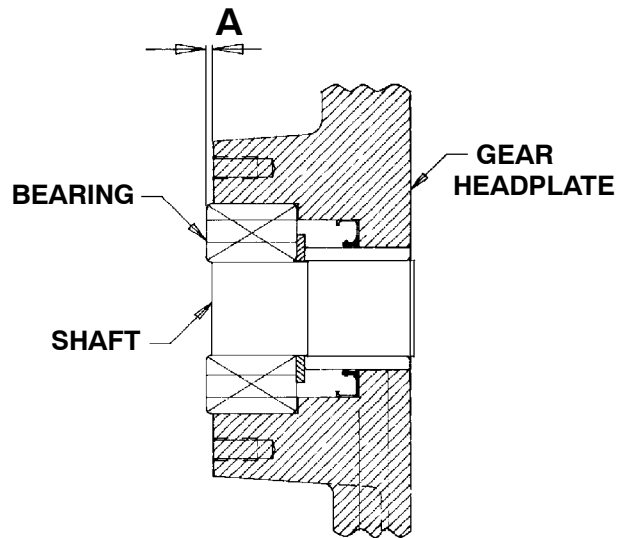

FIGURE 22
- A. With impellers tight against the gear headplate, measure the distance (A) from the bearing outer race to the gear headplate using a depth micrometer (see FIGURE 22, page 21).
- B. Subtract $\frac{1}{3}$ of the total end clearance from the value measured at point A. This value is the amount of shim (13) that should be placed between the retainer and the headplate at point (S).